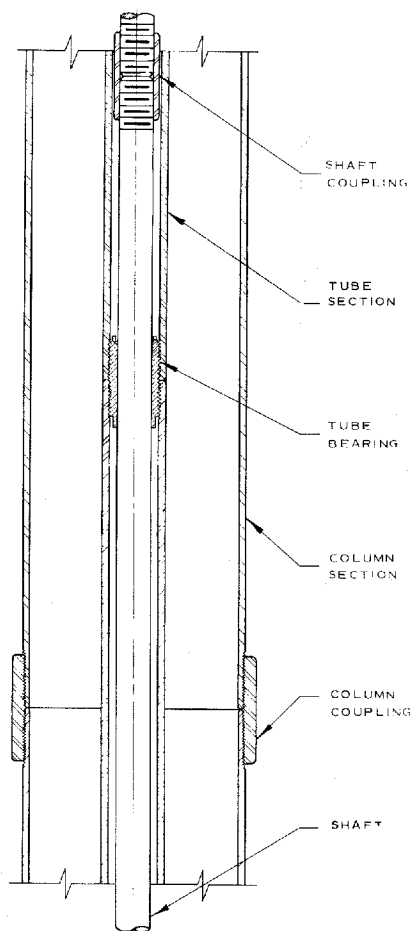

Fig. 6-1. Sectional View Through Enclosed Lineshaft Column.
D. Tube sections are furnished in two different lengths: ten feet and twenty feet. The ten-foot sections are made up of two parts, each five feet long, coupled by an externally threaded tube bearing. The twenty-foot sections consist of four parts, five feet long, or three parts, each 6'8" long. These also are coupled by tube bearings. Each complete tube section is furnished with an additional tube bearing threaded into the upper end for one-half its length. (See Fig. 6-1.)